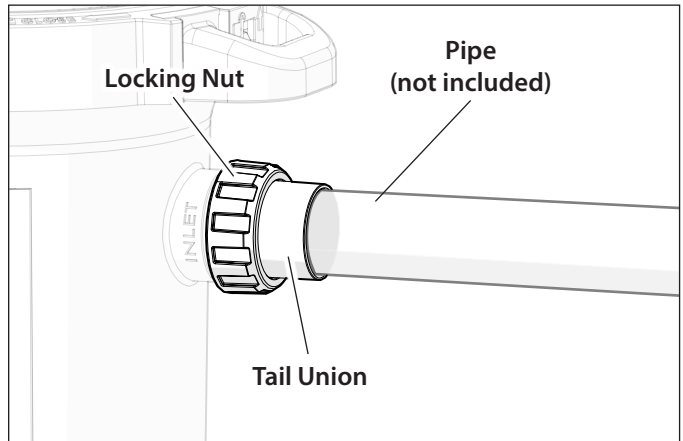

Figure 5. Plumbing Connections
6. Glue the water connection pipe from the pump to the inlet tail union (*Figure 5*). Glue the pool returns water connection pipe to the outlet tail union. Ensure locking nuts are placed on tail union before gluing connection pipes. Allow 24 hours for glue to dry before subjecting filter to system pressures.